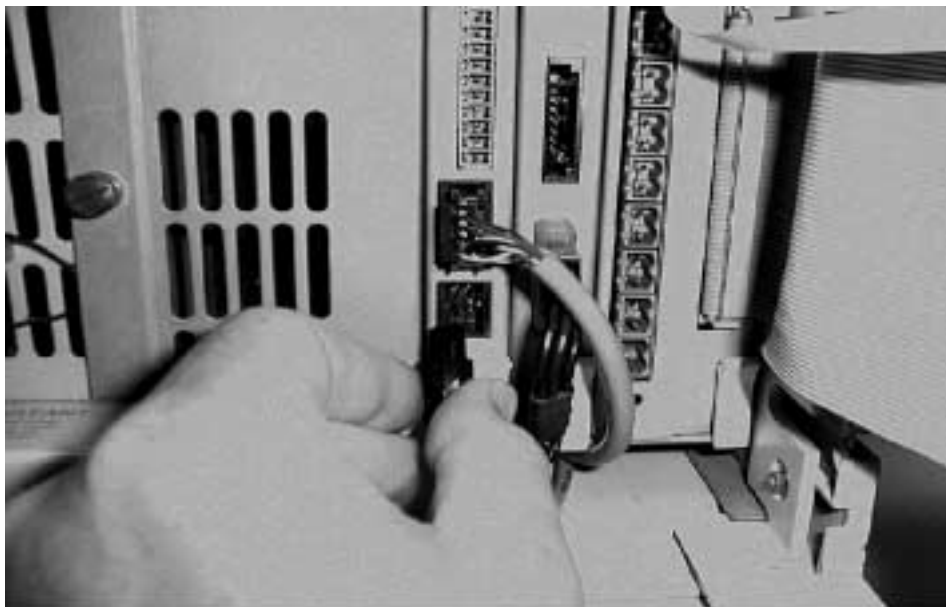

Figure 7. Disconnecting the SRS Cable from the SCR Card
- b. Unplug the SRS cable from the J3 connector (see Figure 7).